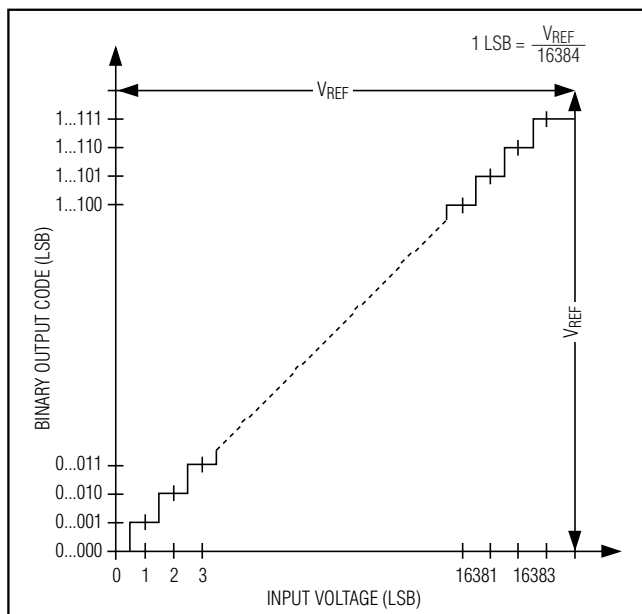
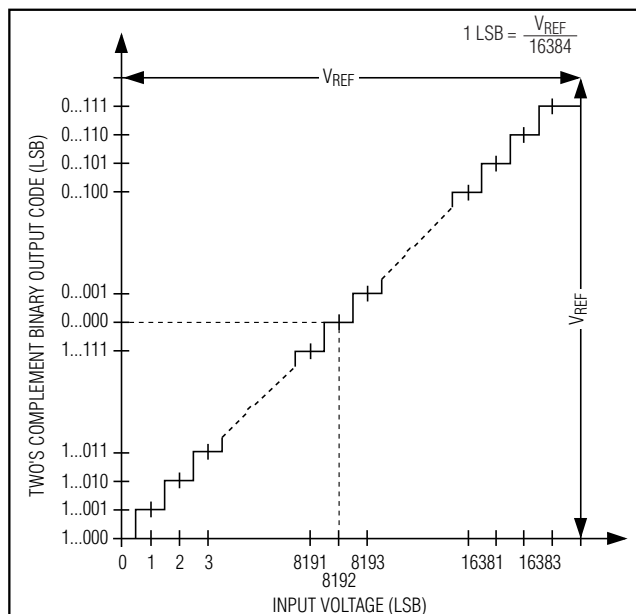

Figure 14. Unipolar Transfer Function
Figure 15. Bipolar Transfer Function
In unipolar input mode, the digital output is straight binary (Figure 14). For bipolar input mode, the digital output is two's complement binary (Figure 15). Data is clocked out on the falling edge of SCLK in MSB-first format.
Output data coding for the MAX1146–MAX1149 is binary in unipolar mode and two's complement binary in bipolar mode with $1\text{ LSB} = (V_{\text{REF}}/2^N)$, where N is the number of bits (14). Code transitions occur halfway between successive-integer LSB values. Figure 14 and Figure 15 show the input/output (I/O) transfer functions for unipolar and bipolar operations, respectively.